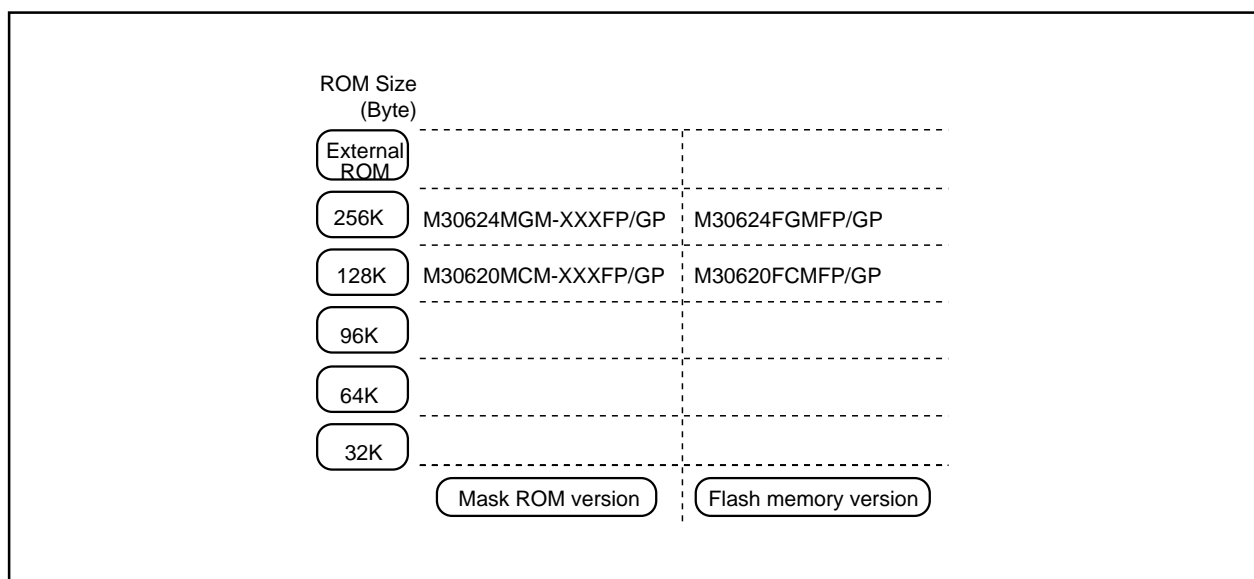

Figure 1.30.4. ROM expansion
- Memory capacity ROM (See Figure 1.30.4. ROM Expansion)